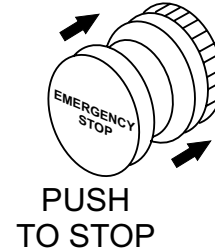

**Figure 65. Battery Switch (OFF)**
8. Set the **battery ON/OFF switch** (Figure 65) to the “**OFF**” position.